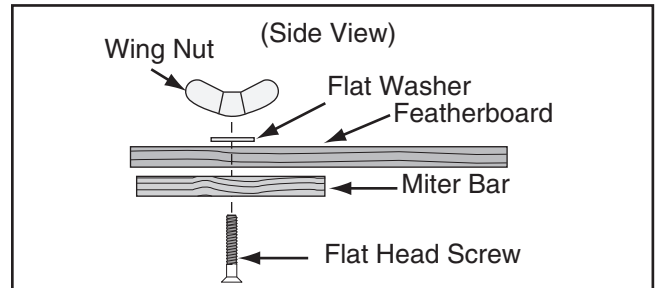

Figure 71. Assembling miter slot featherboard components.
8. Assemble miter bar and featherboard with $\frac{1}{4}$ "-20 x flat head screw, flat washer, and wing nut (see **Figure 71**). Congratulations! Your featherboard is complete.